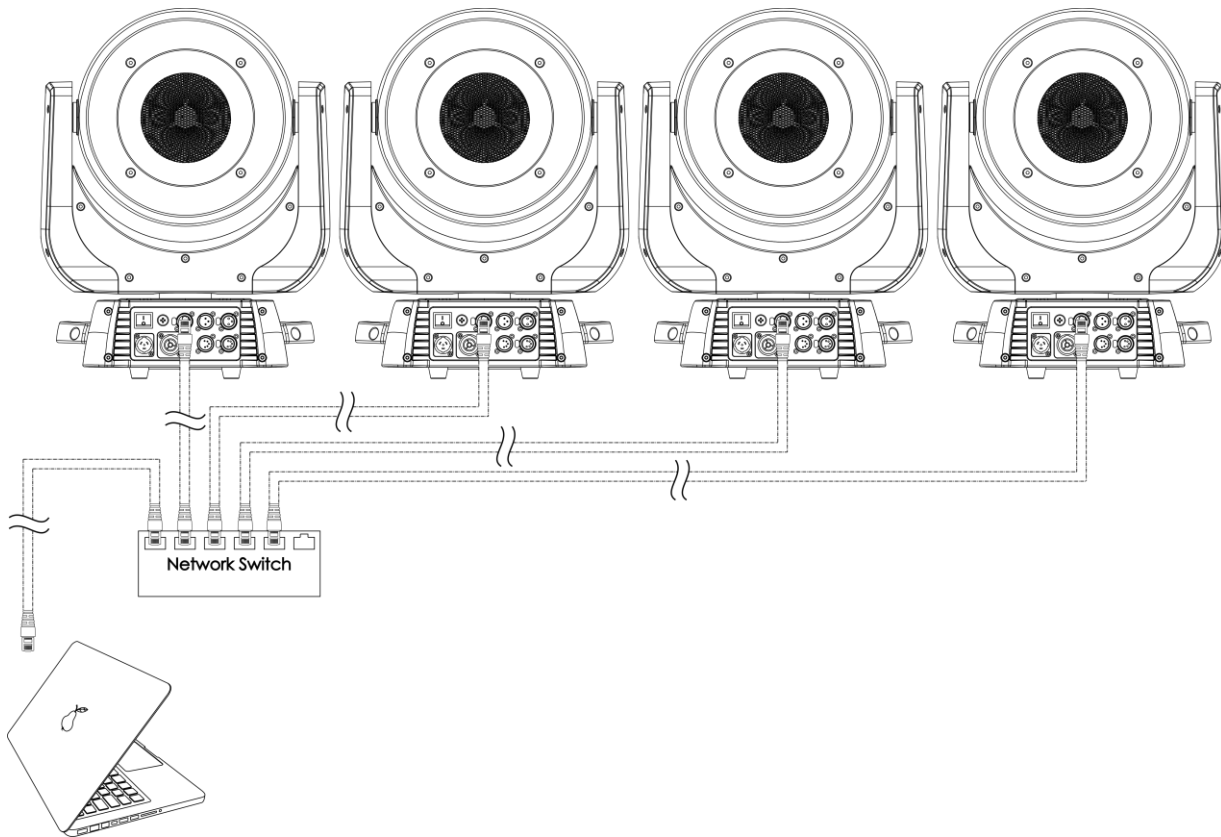

Fig. 06
- 03) Use a CAT-5/CAT-6 cable to connect your ArtNet controller to a network switch as shown in fig. 06.
- 04) Link all the Infinity's by connecting their RJ45 sockets to your network switch, using a CAT-5/CAT-6 signal cable as shown in fig. 06.